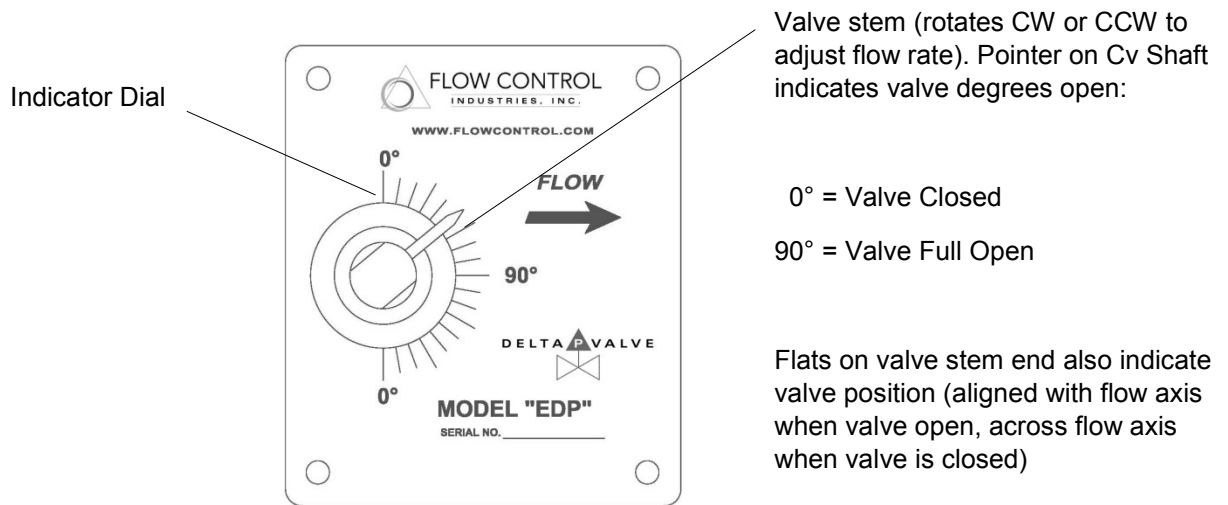

Figure 8: DeltaPValve Nameplate (4" & 6" EDP)
5. The 4" & 6" (100mm & 150mm) size valves are furnished with a flow performance tag (see Example "A", Fig. 8, for flow tag in "gpm", and Example "B" for metric flow tag in liters per second). Using the nylon tie provided, attach the metal flow performance tag for the specific valve serial number through the hole provided in the actuator mounting bracket, or around the valve stem. Each valve is individually flow tested at the factory and has its own unique tag.